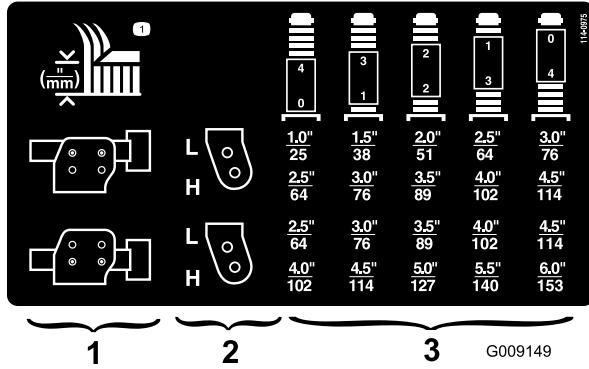

Figure 22
2. Position the castor wheel axles in the same holes in all castor forks. Refer to the chart (Figure 22) to determine the correct holes for the setting.
Refer to the chart (Figure 22) to determine the combinations of spacers for the setting: